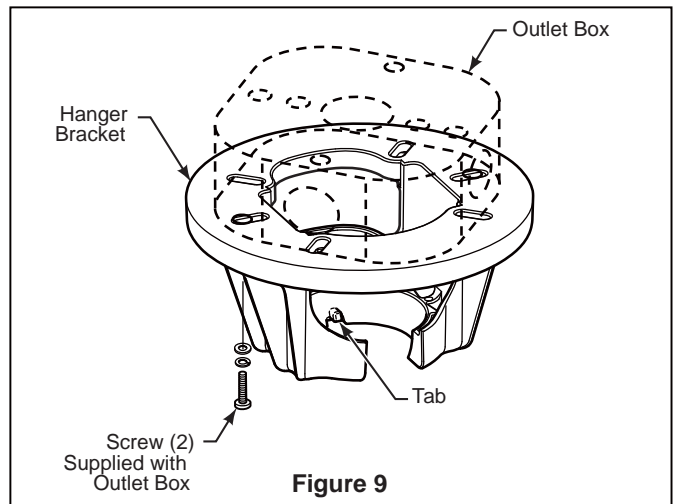
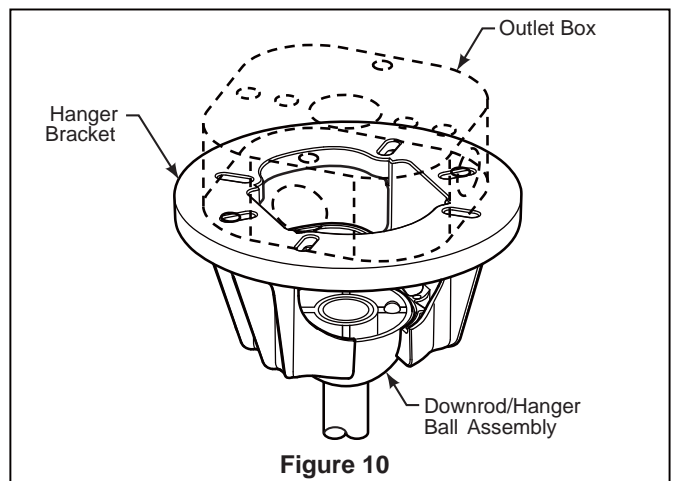

Figure 9
Figure 10
1. Securely attach the hanger bracket to the outlet box using the outlet box screws and washers supplied with the outlet box (Figure 9).
NOTE: Outlet box screws pass through slotted holes of the hanger bracket (Figure 9).
3. Carefully lift the fan and seat the downrod/hanger ball assembly on the hanger bracket that was just attached to the outlet box (Figure 10). Be sure the groove in the ball is lined up with tab on the hanger bracket (Figure 9).